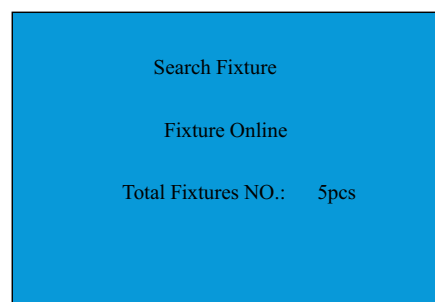

Figure C. 4
3. Interfact will show as below Figure C.4 after seaching finished.